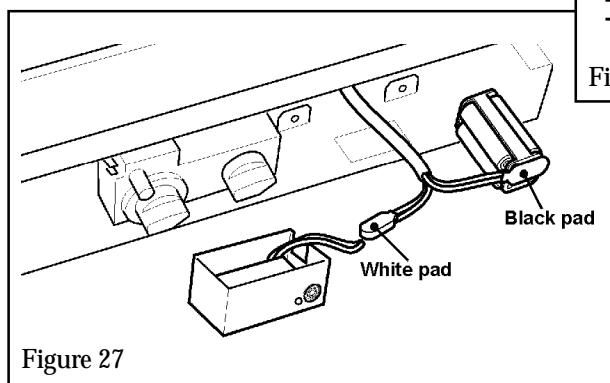

Figure 27
- Remove the remote control receiver lid. Remove the cover from the **white** connection pad. Fit this connection pad to the remote control receiver terminals. See figure 27.
- Fit the **black** connection pad to a battery box. Fit four 1.5V batteries. See figure 27.